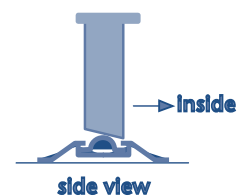

Figure 21: Vinyl bulb threshold.
- **Vinyl bulb thresholds** are similar to door shoes, but they are installed under the door in place of the threshold, instead of to the bottom edge of the door. Again, the door must be removed and trimmed for installation. In addition, the bottom edge of the door must be beveled $\frac{1}{8}$ of an inch so the door can close easily, (Figure 21) Vinyl thresholds wear out, but can be easily replaced.